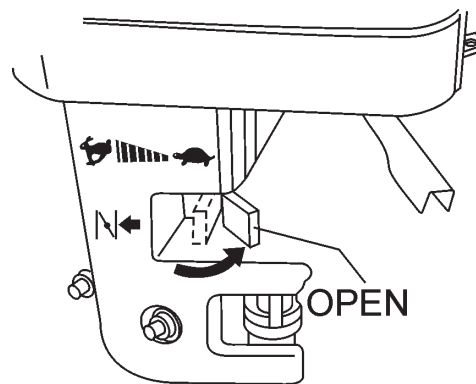

Figure 10. Engine Choke Lever (Open)
4. Place the **choke lever** (Figure 10) in the "OPEN" position if starting a **warm engine** or the **temperature is warm**.